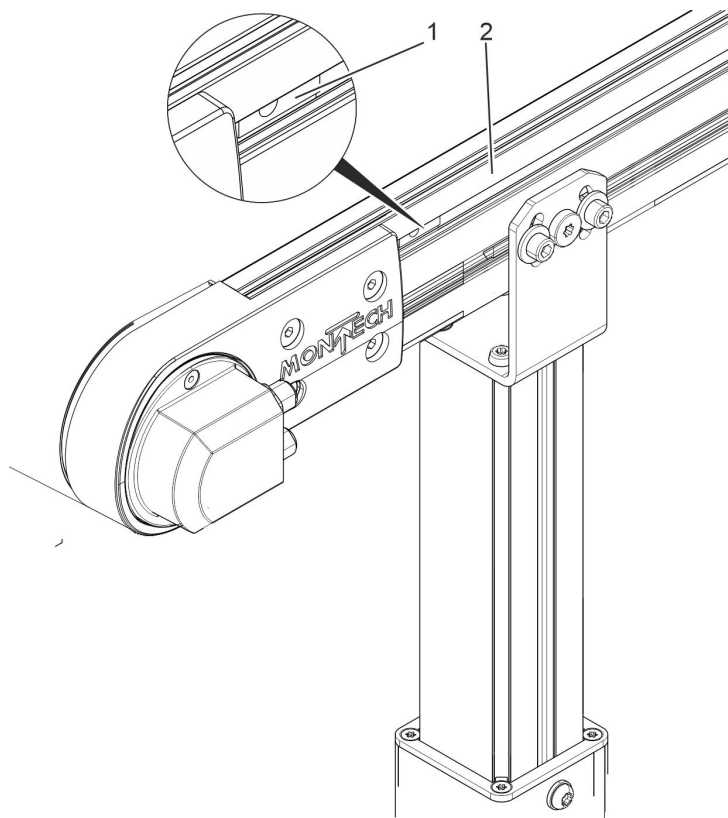

Fig. 22: Swiveling in the slot nut
1. ➔ Swivel the slot nut (Fig. 22/1) into the upper groove of the lateral profile (Fig. 22/2).